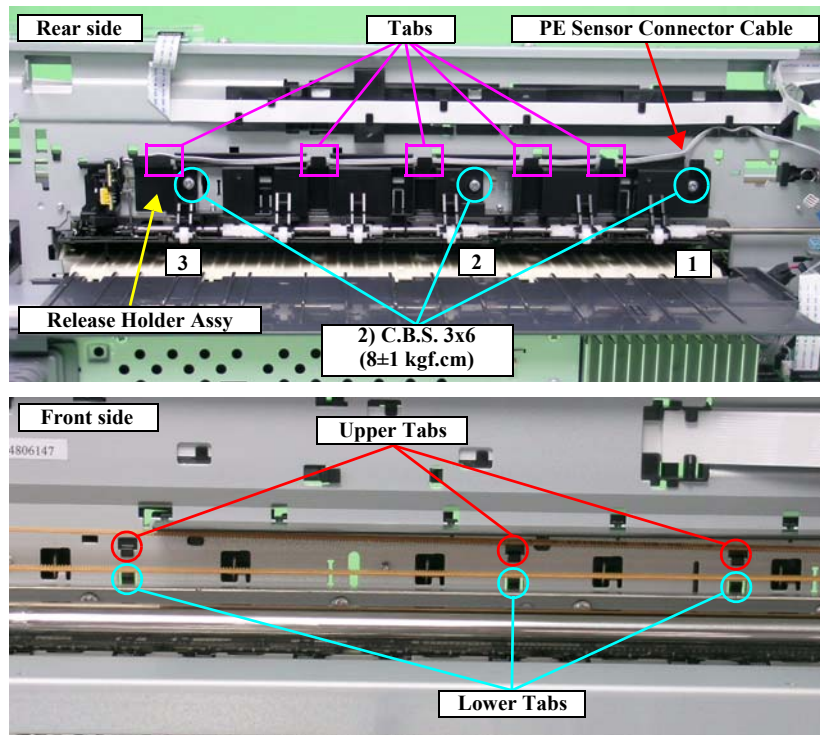

Figure 4-107. Removing the Release Holder Assy
- Align the three Upper tabs on the Release Holder Assy with the positioning holes on the Main Frame. See Figure 4-107.
- Tighten the screws in the order shown in Figure 4-107.